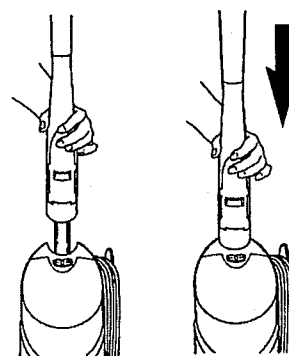

Figure 2b
4. Guide the Cleaning Wand Upper Handle into its storage position. (See Figure 2b.)